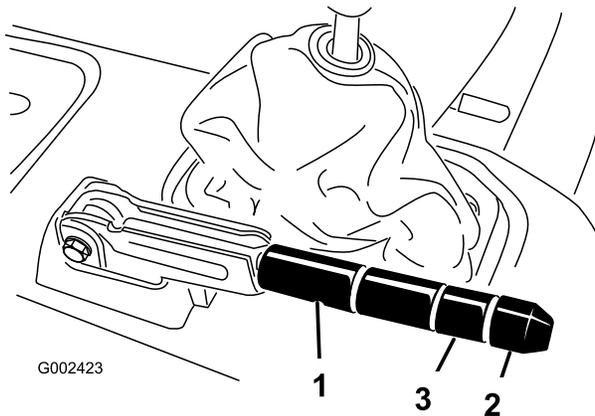

Figure 65
2. Loosen the set screw securing the knob to the parking brake lever (Figure 65).